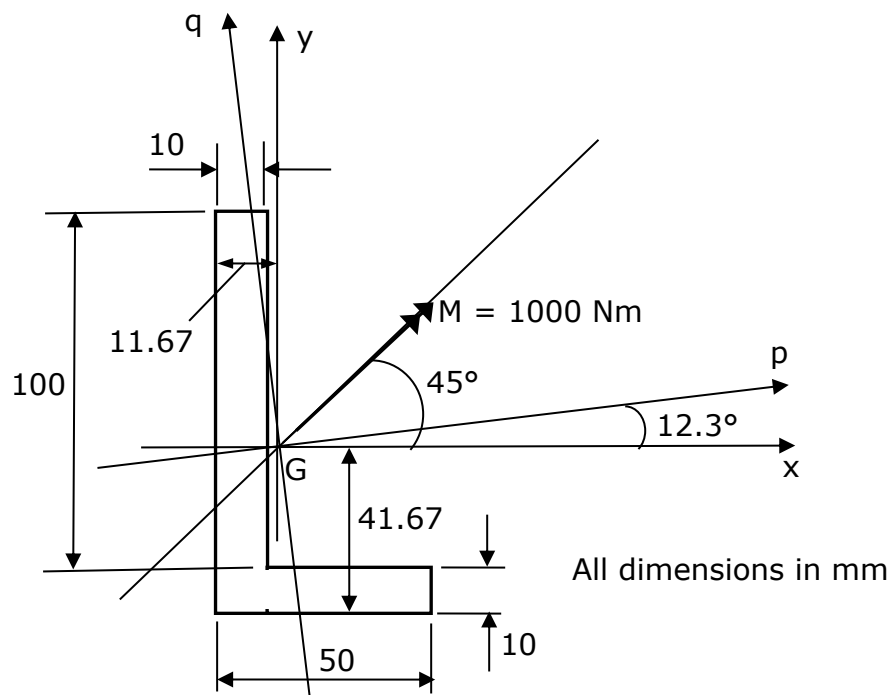

Fig. Q1
1. The centroid of area, G, of the cross-section shown in Fig. Q1 is positioned 11.67 mm from the left hand edge and 41.67 mm from the bottom edge of the section, as shown. The section's principal second moments of area are: